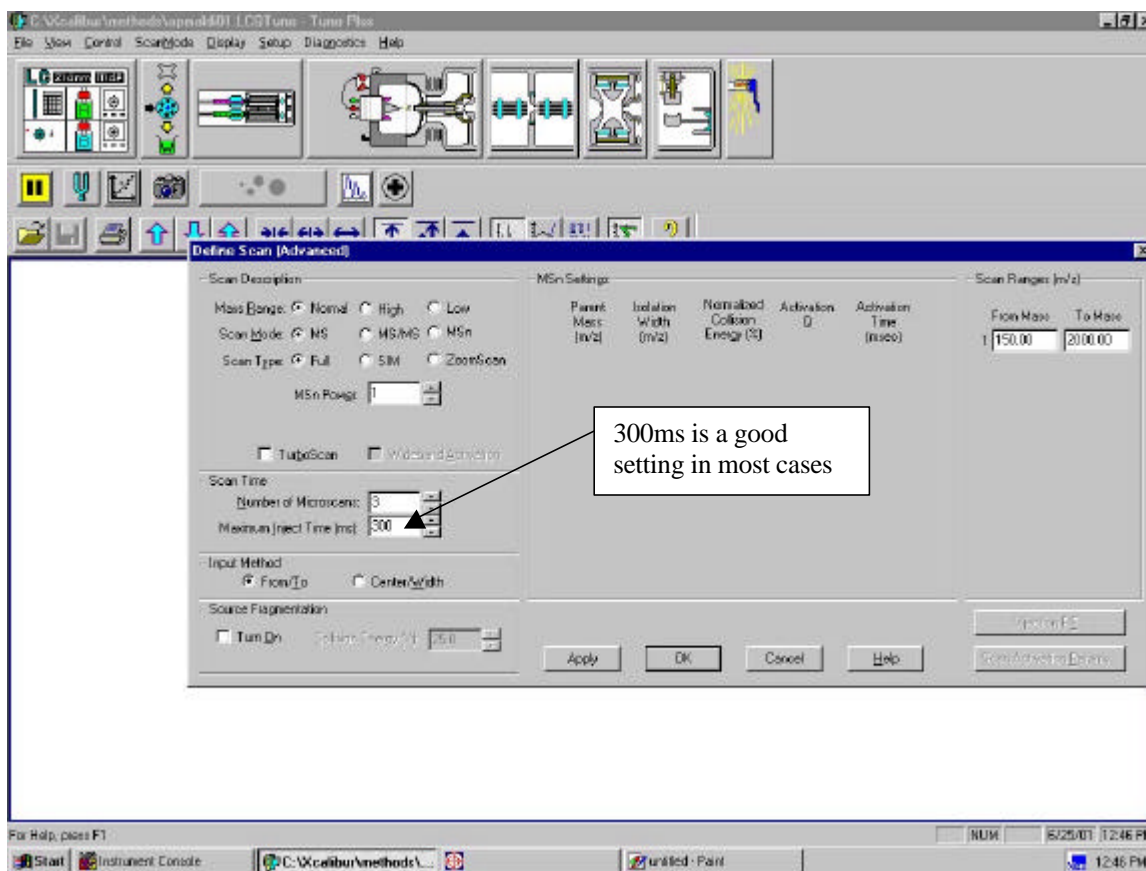

Fig. 30.
- The AP/MALDI source typically generates a much weaker ion current compared with Electrospray. So it is recommended that you increase the Maximum Inject Time to 200-500ms or even more (see Fig. 30 above). More experienced users can try to switch the Automatic Gain Control (AGP) to achieve the highest sensitivity for very diluted samples. In this case, Inject Time should be around 500ms. MS/MS and Zoom Scan does not work if AGP is set to OFF with some releases of the Tune Plus program. If AGP is OFF, you are responsible for decreasing the Injection Time manually for samples with higher analyte concentration (typically, 500fMole/spot or more) to avoid Trap saturation.